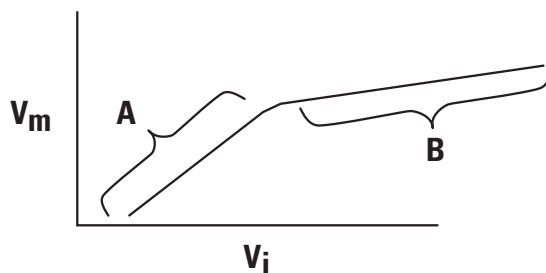

Figure 6-2. Compound-linear rating.
The second type of index rating that can be implemented in ADAPS is referred to as a compound-linear rating. Occasionally the rating can be defined as two or more lines having differing slopes with transition regions linking the lines. An example of such a rating is for a stream where out-of-bank flows occur, and two straight lines and a transition region are required to define the index rating: (1) a linear rating for in-channel flow and (2) another linear rating for out-of-bank flow. A simplified graph of this rating is shown in figure 6-2.